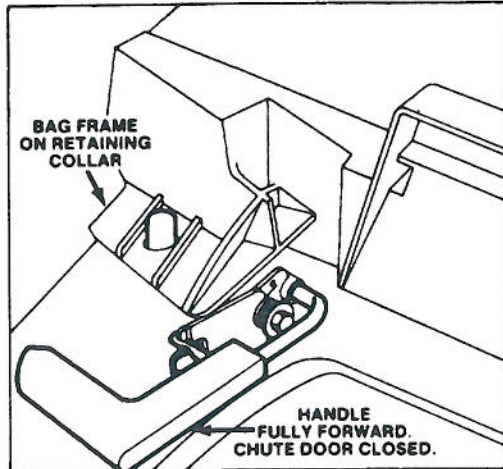

Figure 5
**MULCH** — In summer, when grass grows slower and is drier, mulch by closing chute door (Fig. 5). For convenience and protection, keep grass bag on mower.
6. EMPTYING BAG — Release control bar and wait for blade to stop. Move chute door handle forward to engage the locking pin with catch (Fig. 5). Grasp handle at front and rear of bag and lift bag off mower. Gradually tip bag forward to empty clippings.